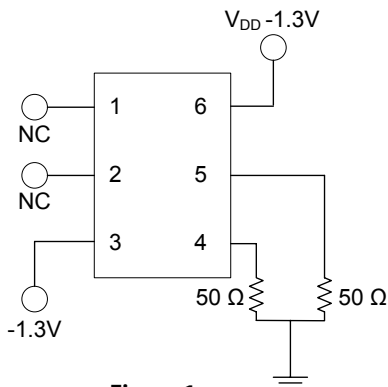
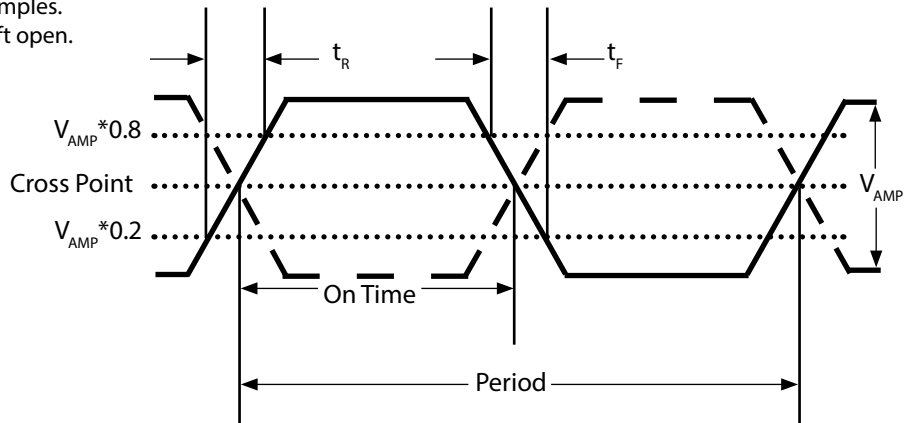
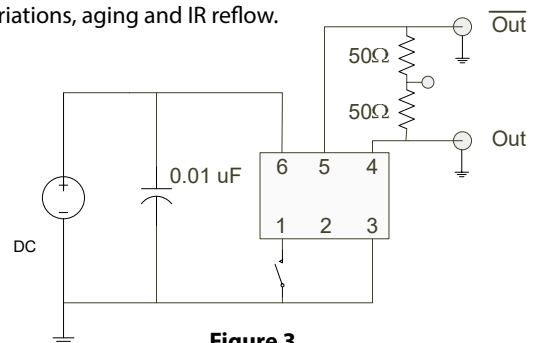

Figure 1.
Figure 2.
Figure 3.
2. Figure 1 defines the test circuit and Figure 2 defines these parameters.
2. Figure 2 defines these parameters and Figure 3 defines the test circuit.